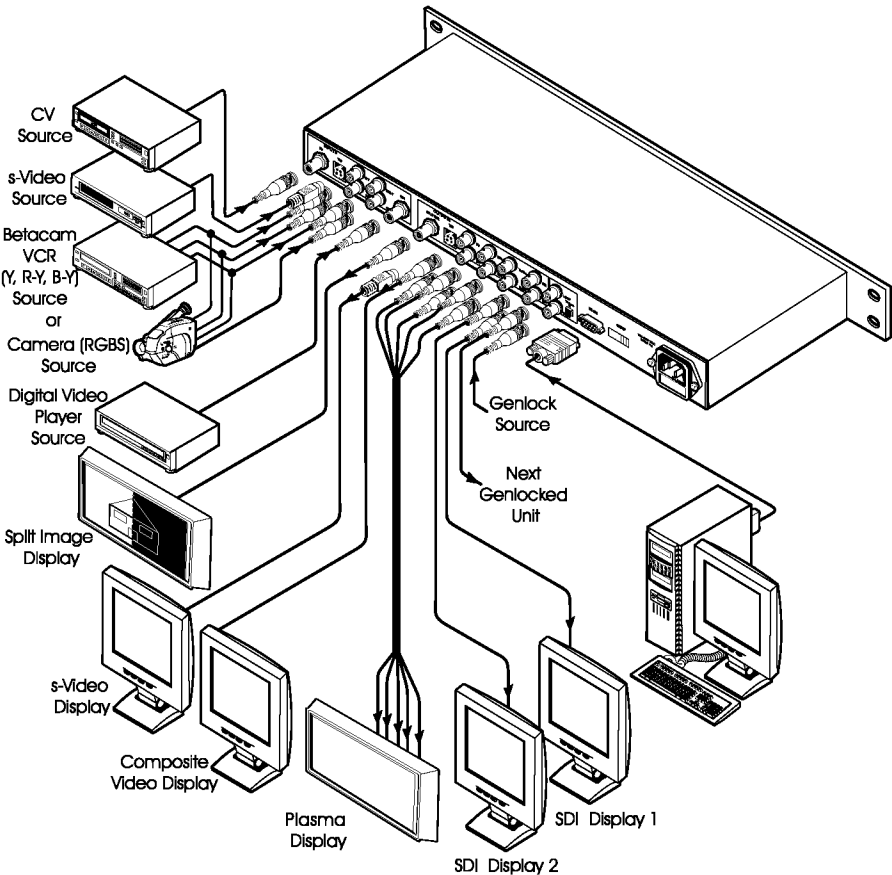

Figure 3: Connecting the SP-11D Digital Video Processor
You can use your **SP-11D** to convert composite video, s-Video, component video (YUV or RGB/S), or SDI signals to composite video, s-Video, component video (YUV, RGsB, RGBS, RGBHV) and¹ SDI. The processing can be evaluated on a “Before/after” split-screen, as the example in Figure 3 illustrates.
8. Connect the power cord⁴ (not illustrated in Figure 3).
The example in Figure 3 illustrates how to connect your **SP-11D**: